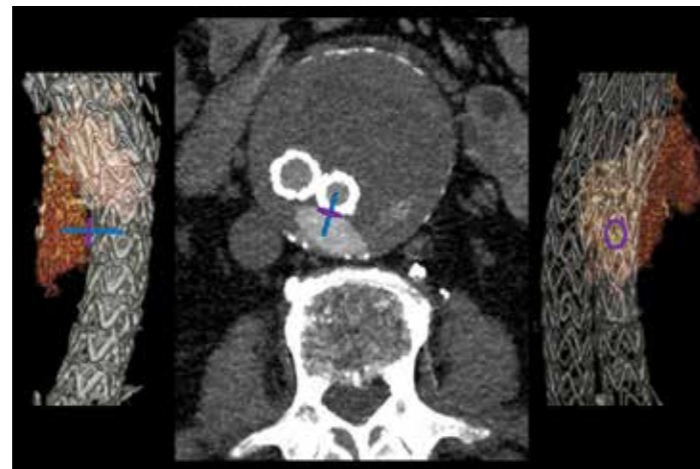

Fig. 1 Endoleak Nidus/Planning lines from CTA with 3D model
Prior to starting the procedure, the CT Angiogram was used to create a Volume Rendered (VR) model of the endoleak nidus to be used as an overlay during the procedure (Fig. 1). On the same model, a planning ring and line were drawn to identify the entry point into the nidus through the graft.
Figure 1. 57 years old male patient. **Left:** 45° ipsilateral DSA showing vessels overlap hiding the prostatic artery's origin. **Right:** CBCT imaging depicting the ostia of the prostatic artery (classified in this case as Type 1 anatomical variant^{6,7}).
Figure 1 illustrates why 2D DSA alone is limited to accurately identify the origin of the prostatic artery. In our experience, it is often necessary to acquire a second or even a third DSA. A CBCT 3D image provides a comprehensive understanding of the vascular pelvic anatomy with a higher accuracy. This can lead to a reduction in radiation dose when compared to multiple DSAs. As an example, in this case, the left side DSA Air Kerma was 31.5 mGy while the CBCT Air Kerma was 52.8 mGy. Without the CBCT, one or two additional DSAs would have been needed resulting in a total of 63 mGy or 95 mGy. In this scenario, CBCT allowed a dose reduction of 16% to 44%⁵.